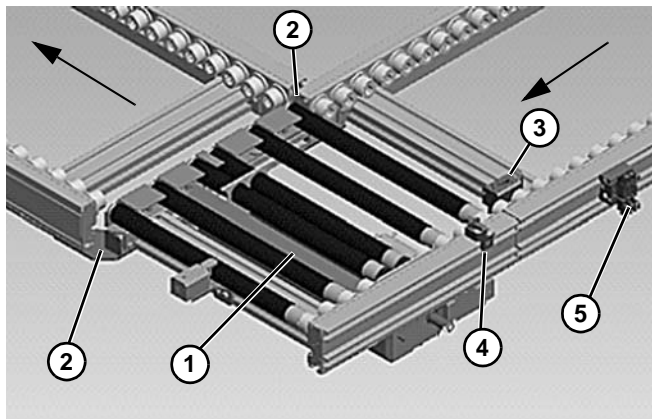

Figure 70
1. Install and adjust Pusher module (**Figure 70, item 1**).
2. Connect transfer conveyor with connecting brackets (**Figure 70, item 2**).
3. Locate and install pallet stop (**Figure 70, item 3**). (Refer to “Pallet Stops” starting on page 6.)
4. Locate and install pallet sensor (**Figure 70, item 4**). (Refer to “Sensor Mounts” starting on page 6.)
5. Install and connect pneumatic solenoids (**Figure 70, item 5**), provided by others.